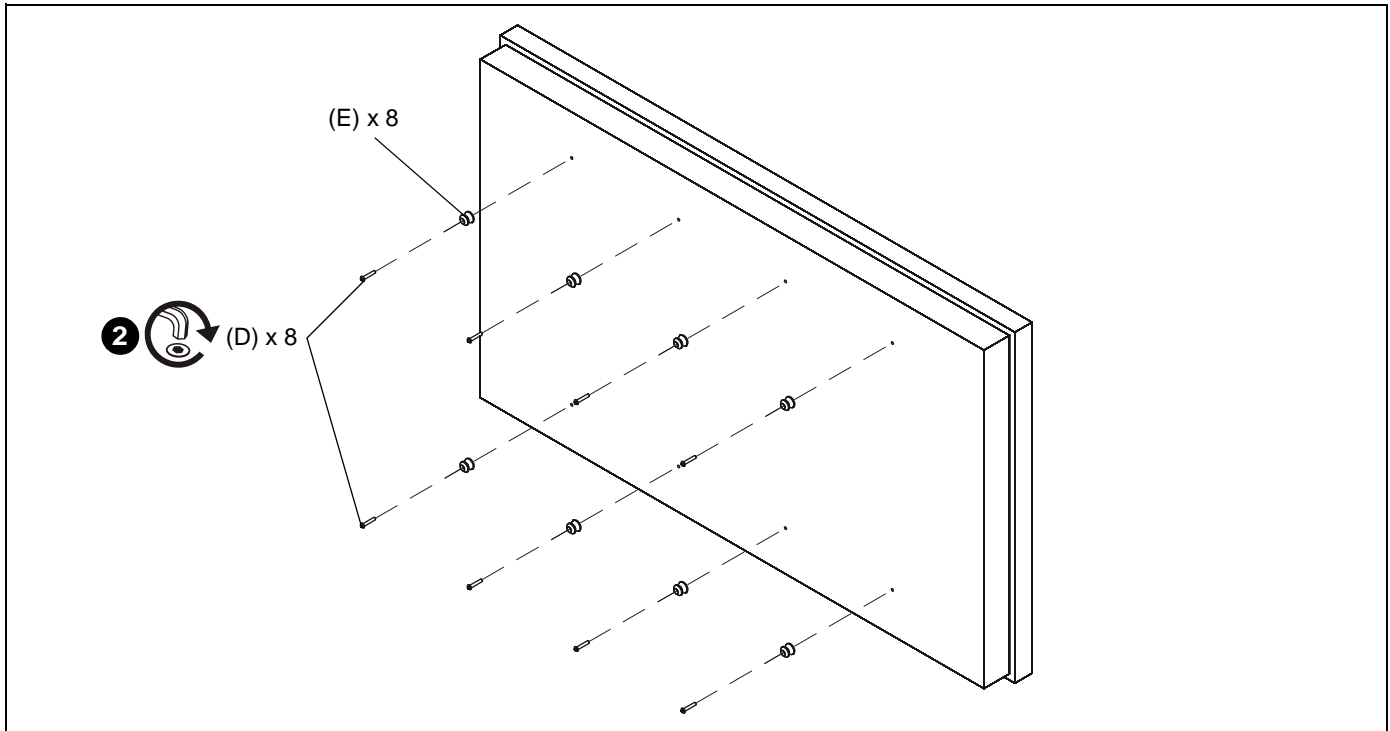

Figure 6
2. Install eight mounting buttons (E) onto display using eight M8 x 35mm button head cap screws (D). (See Figure 6)